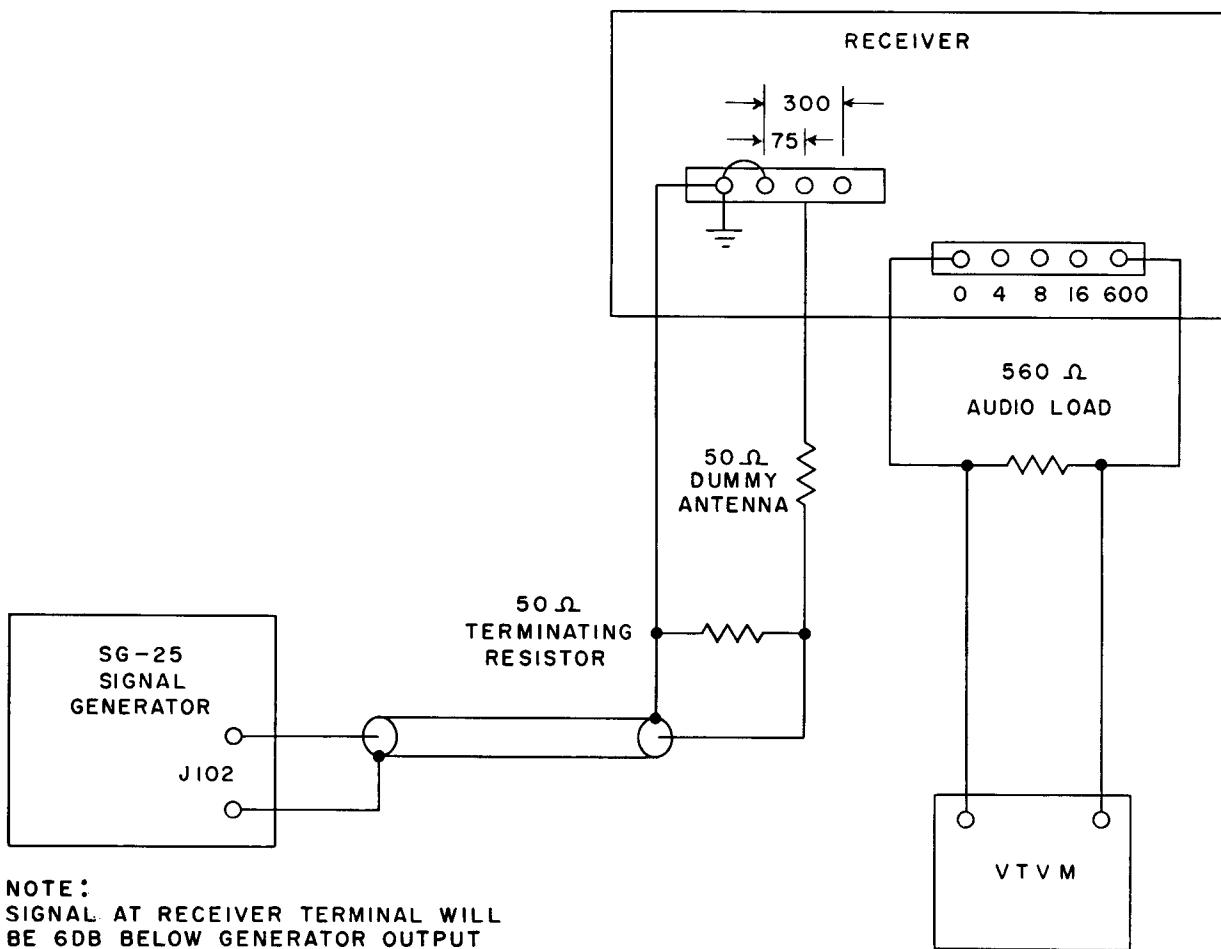

Figure 4-3. Test Equipment Connections for R-F Alignment and Sensitivity Test
- a. Connect signal generator, dummy antenna resistor, 560-ohm audio load, and a-c vtvm as shown in Figure 4-3.
- Connect signal generator, dummy antenna resistor, 560-ohm audio load, and a-c vtvm as shown in Figure 4-3.
b. Connect signal generator and dummy antenna resistor to 75-ohm unbalanced antenna terminals as shown in Figure 4-3.